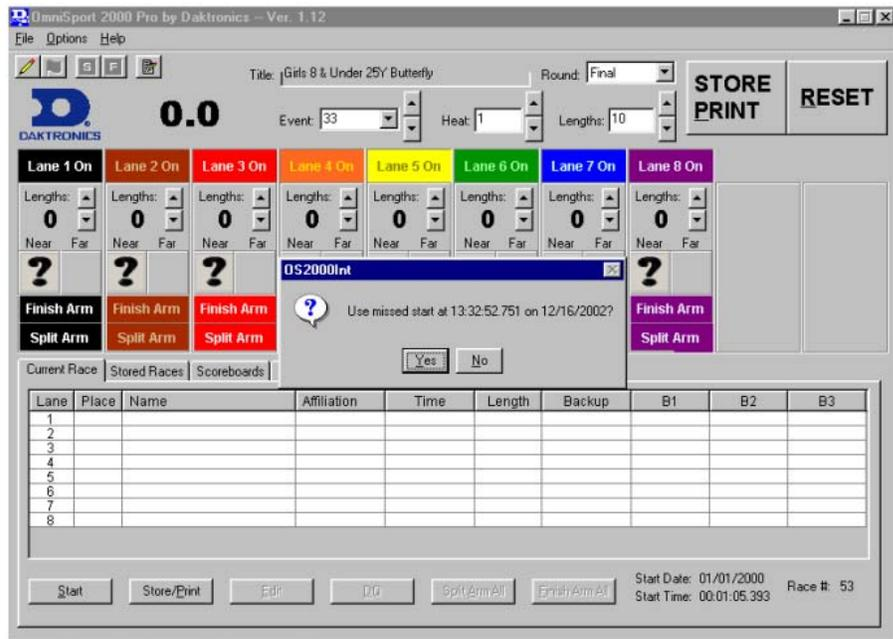

Figure 23: Always Ready Start Dialog Box
- b. The following message in **Figure 23** displays on the screen at this time: